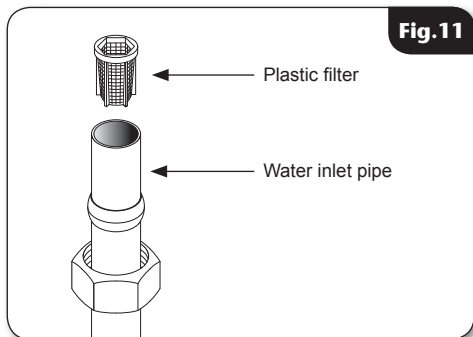

Fig. 11
- **IMPORTANT:** Fit the nut and olive onto the pipework. Insert the supplied plastic inlet filter into the 15mm water inlet pipe (**fig. 11**) and connect the mains water pipe fitting to the inlet of the shower.